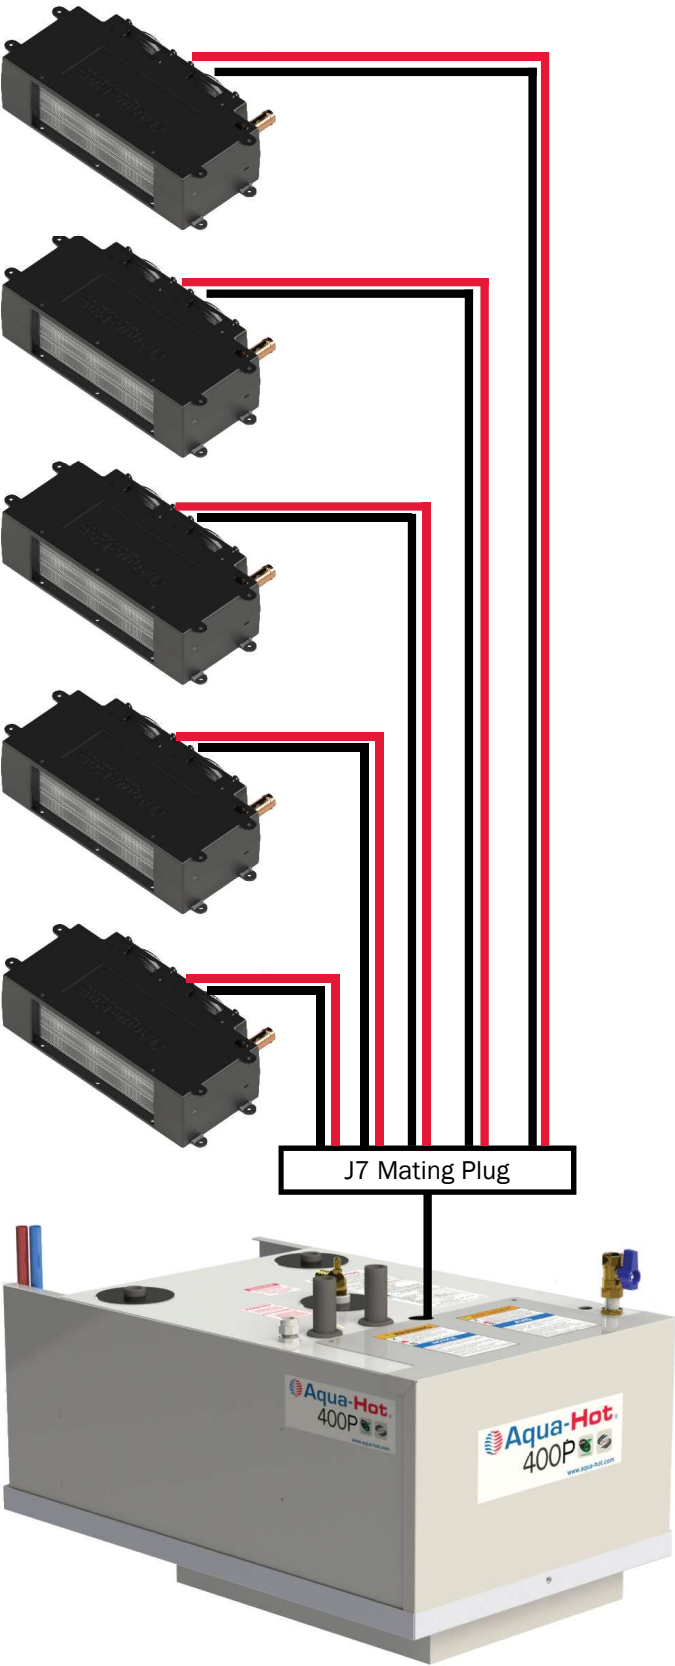

Figure 31
- 1. Wire each heat exchanger (in a heating zone) in parallel to one another as shown in Figure 31.